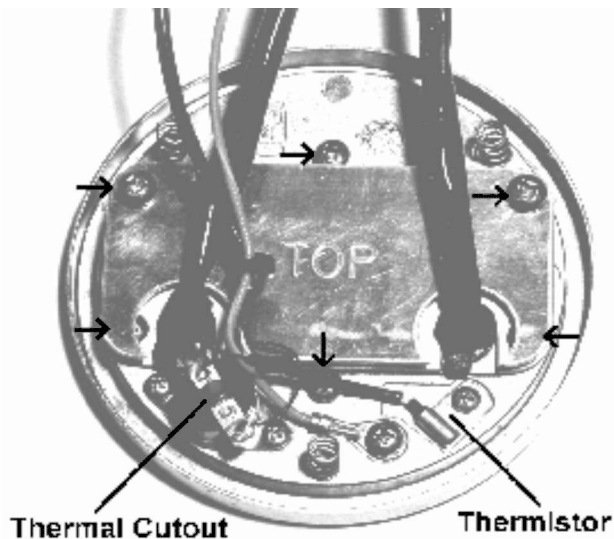

Figure 7.7 Showing location of Heater Plate Thermistor Thermal Cutout and Element Screws
5. Remove screw holding heater plate thermistor - see Figure 7.7.
4. Remove the two visible screws holding the heater plate element reflector. Remove the shield, making sure the washers are not lost. Unscrew the last four screws on the element cover (Figure 7.7).
3. Remove the three screws holding the heater plate - see Figure 7.7.